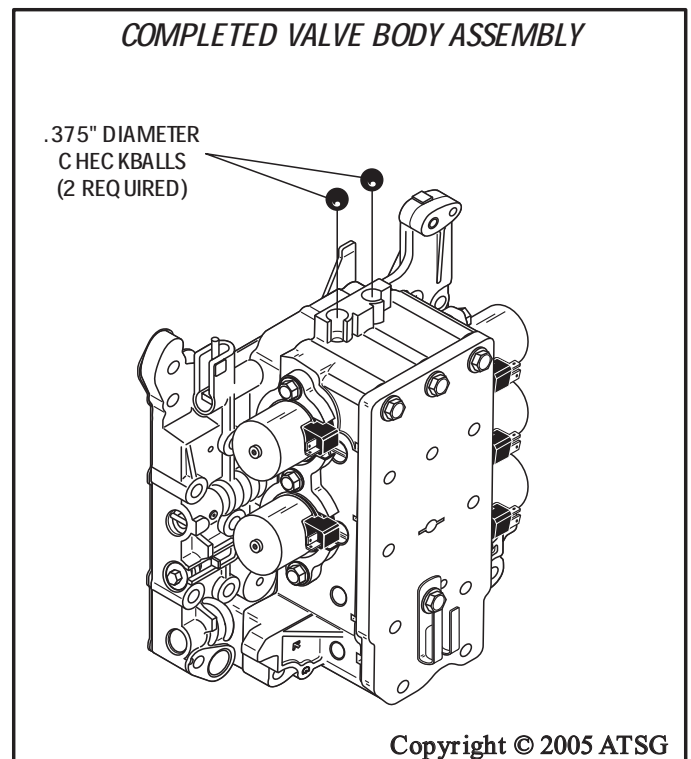

Figure 150
31. Set the completed valve body assembly aside for final assembly process (See Figure 150).